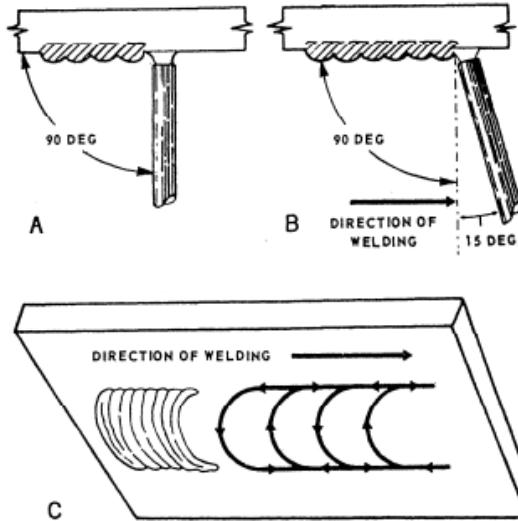

Figure 7-39.—Position of electrode and weave motion in the overhead position.
**BEAD WELDS.**—For bead welds, the work angle of the electrode is 90 degrees to the base metal (fig. 7-39, view A). The travel angle should be 10 to 15 degrees in the direction of welding (fig. 7-39, view B).
Weave beads can be made by using the motion shown in figure 7-39, view C. A rather rapid motion is necessary at the end of each semicircular weave to control the molten metal deposit. Avoid excessive weaving because this can cause overheating of the weld deposit and the formation of a large, uncontrollable pool.